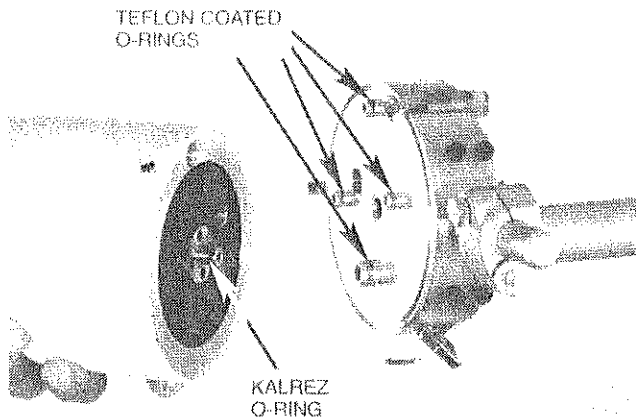

FIG. 41
27. Before reinstalling the AEROBELL atomizer into the manifold, check the condition of the four teflon coated O-rings located on the air fittings (Fig. 41). Replace any damaged or missing O-rings (all four available in kit KK-4459). Note these O-rings are teflon coated and do not require lubrication.
28. Check the condition of the Kalrez O-ring (SSG-8128) on the feed tube inlet. Replace if damaged or missing (Fig. 41). Lightly lubricate.